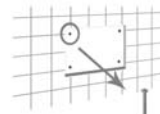
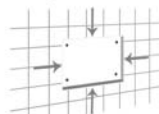

Figure 6
Figure 7
3. Place the back box into the cut-out on the wall with the supplied screws (figure 6) ensuring the back box is flush with the cut-out (figure 7)